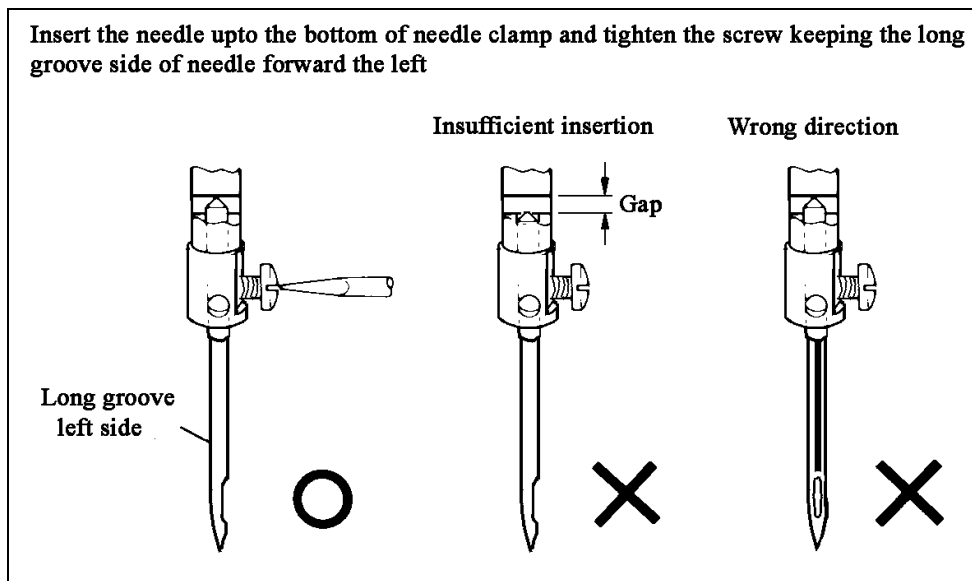

Fig.2
4、 HOW TO ATTACH A NEEDLE (Fig.2)